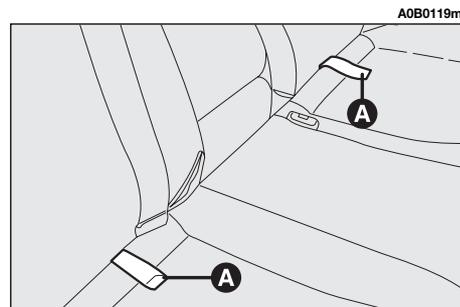

fig. 41
– Tilt the cushions forward pulling from the handle (**A-fig. 41**) at the centre of each cushion.